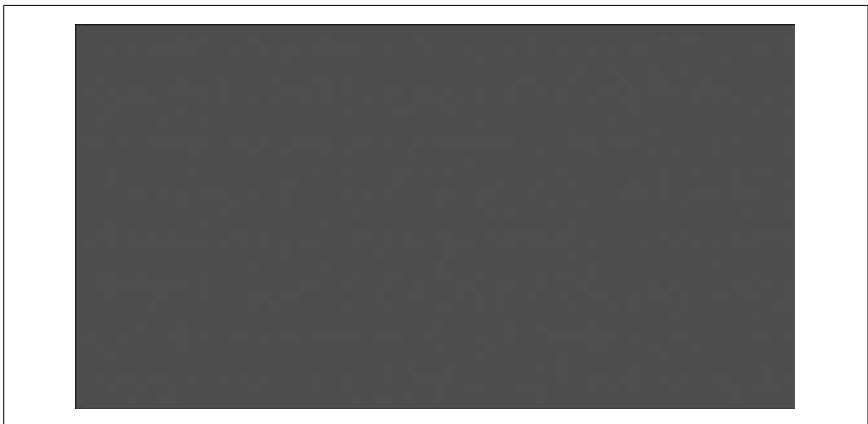

Figure 2-8. 1.78:1 aspect ratio
1.85:1. This is the first of two common widescreen formats used in the theatrical presentation of film. It is the narrower of the two shapes used in theatrical exhibition but is still considerably wider than the standard 4:3 television picture. It is important to note that the 1.85:1 ratio is nearly identical to the 1.78:1 HDTV ratio, and the two sometimes are used interchangeably (note how close Figure 2-8 is to Figure 2-7 in appearance).